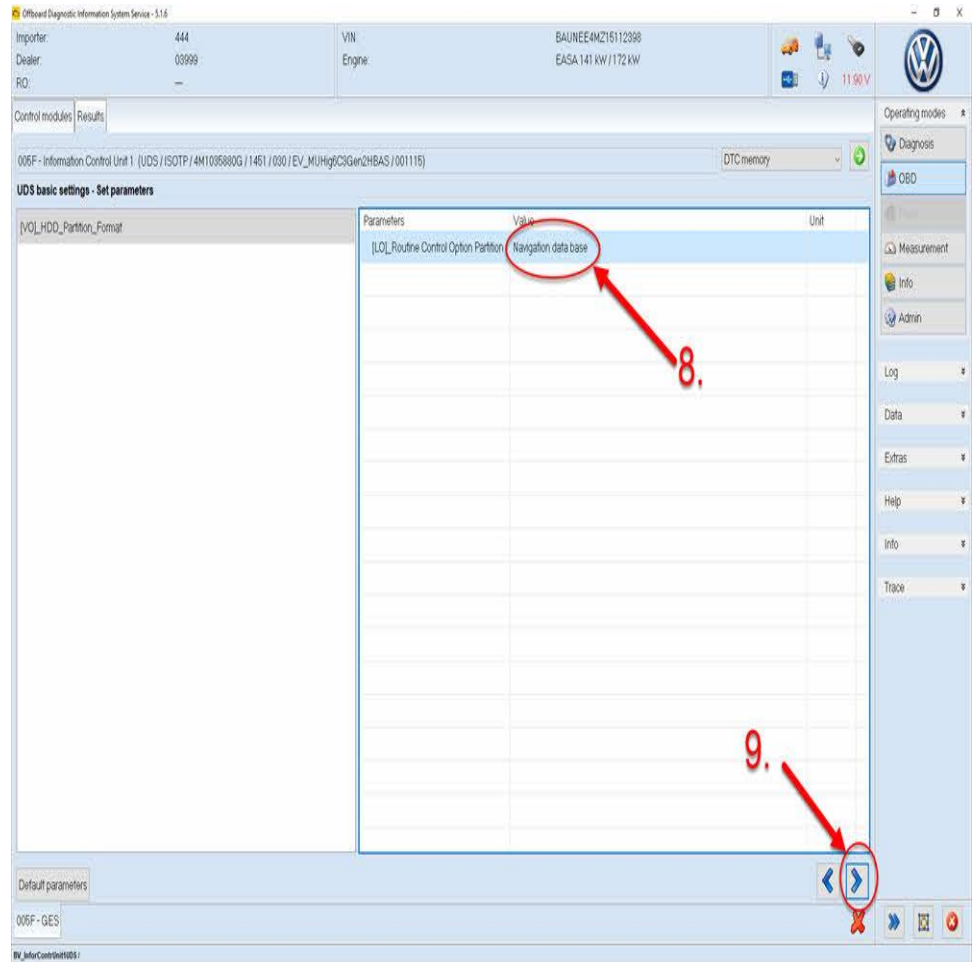

Figure 6. Navigation data base partition.
5. Make sure that the value for the parameter “[LO]_Routine Control Option Partition” says “Navigation data base” (8), then click “Next” (9) (Figure 6).